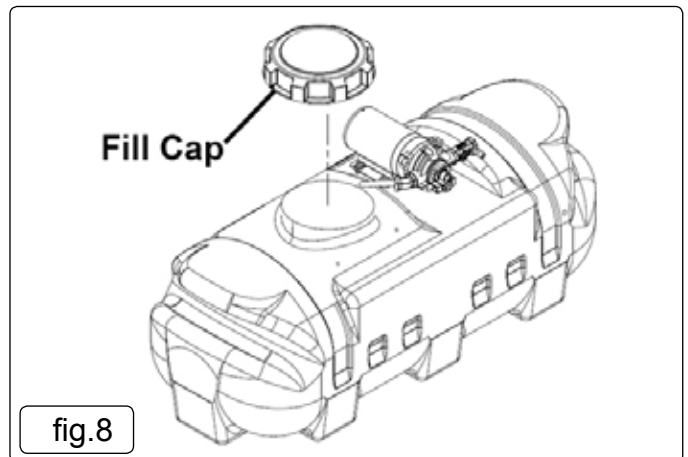

fig.8
- 6.3.4. Remove the fill cap located on top of the sprayer. (fig.8).